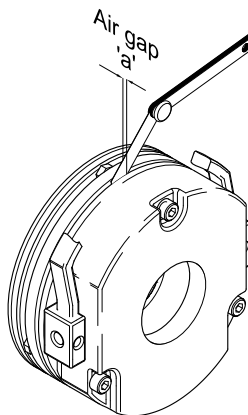

Figure 41 – Checking Hoist Brake Air Gap
The air gap 'a' (between the stator (5) and the armature plate (1)) should be checked in at least three positions around the circumference of the brake using non-magnetic feeler gauges (see Figure 41). The air gap should not exceed the maximum air gap figure given in the above table.